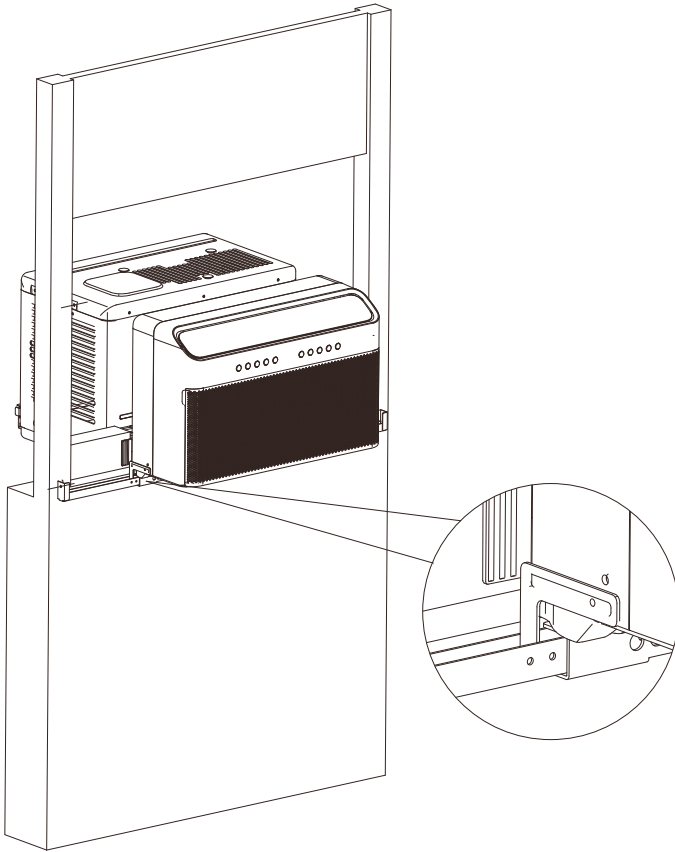

Fig.7
B. Fasten the AC with L plate. See Fig.7